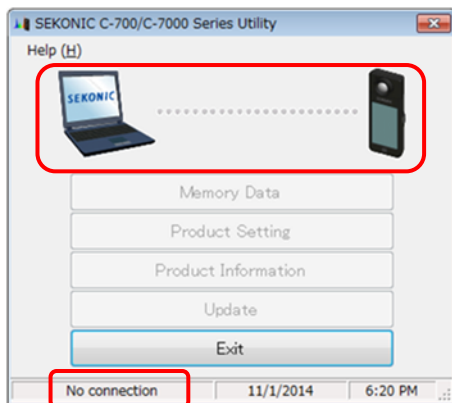
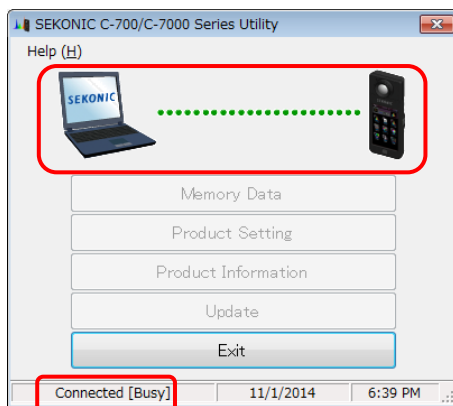
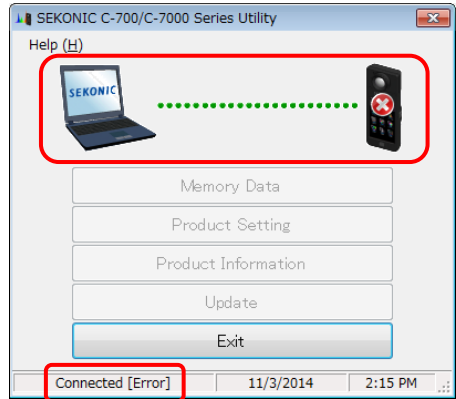

Figure 11 Unconnected status
Figure 12 Connection status (busy)
Figure 13 Connection status (error)
If the USB cable is not connected correctly or if the SPECTROMETER power is not turned on, a screen as shown in Figure 11 appears.
If SPECTROMETER is in connection but in operation and error, screens as shown in Figure 12 to Figure 13 may appear. In that case, please wait until measurement or dark calibration is finished and then operate this software.
- If any of the screens shown in Figure 11 to Figure 13 appears, or if a communication error has occurred, exit this software at once, reconnect the USB cable and restart this software according to the procedures shown in Section “6.1 How to connect to SPECTRO”. (Page ➡)